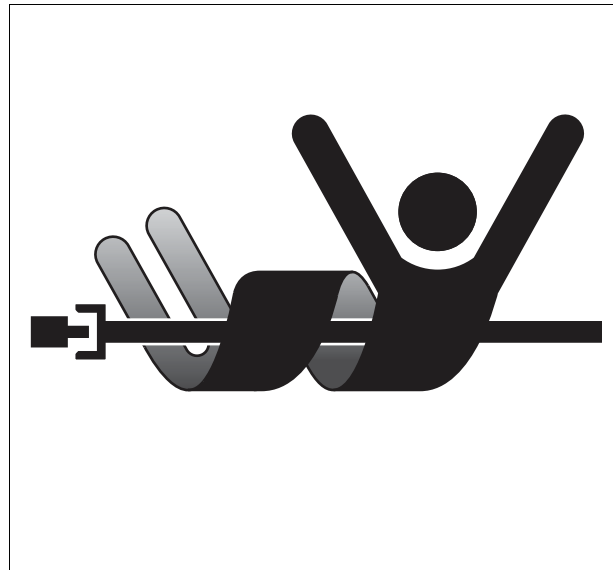

Fig. 7.
- Ensure that all the PTO shaft guards are in place and check the presence of all safety decals fig. 7.